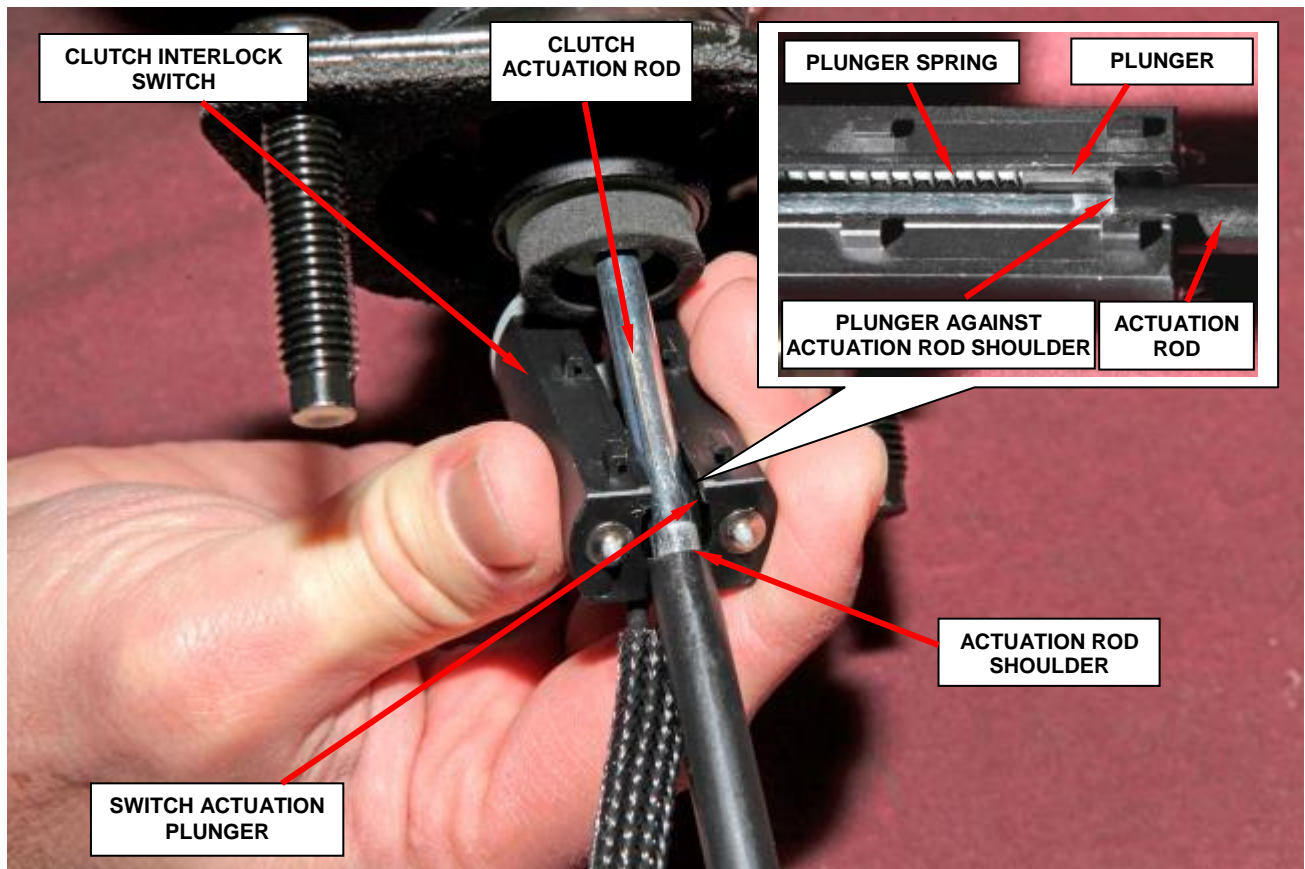

Figure 14 – Clutch Interlock Switch Installation
a. Place the new switch against the clutch rod at an angle (Figure 14).